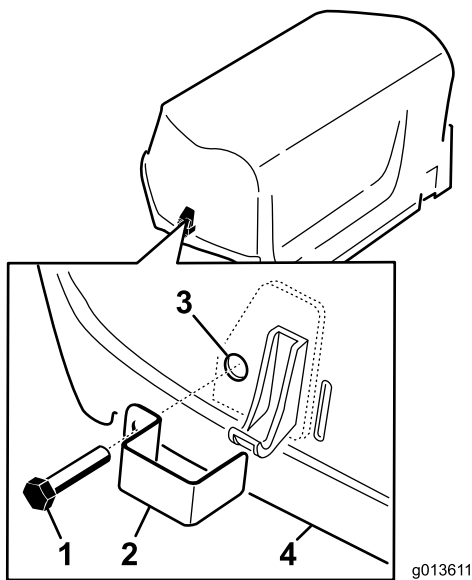

Figure 7
1. Install a latch lock over the left and right hood latches (Figure 7) with a tap bolt (2 total).
2. Using a pliers or adjustable wrench, thread an internal lock washer onto each bolt (1 to 2 threads) to secure the bolts (Figure 7).